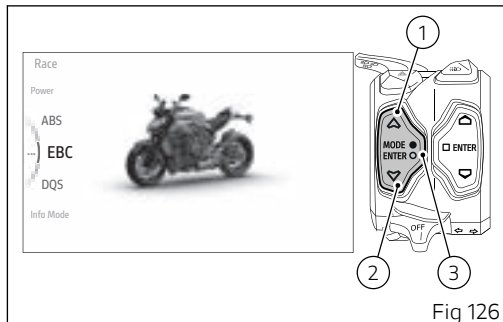

Fig 126
- From the Interactive Menu, use buttons (1) and (2) to select the item "Setting menu" and press ENTER (3).
- Select the "Riding Mode" item and press ENTER (3).
- Select the Riding Mode you wish to customise and press ENTER (3).
- Select the "EBC" (Fig 126) item and press ENTER (3).